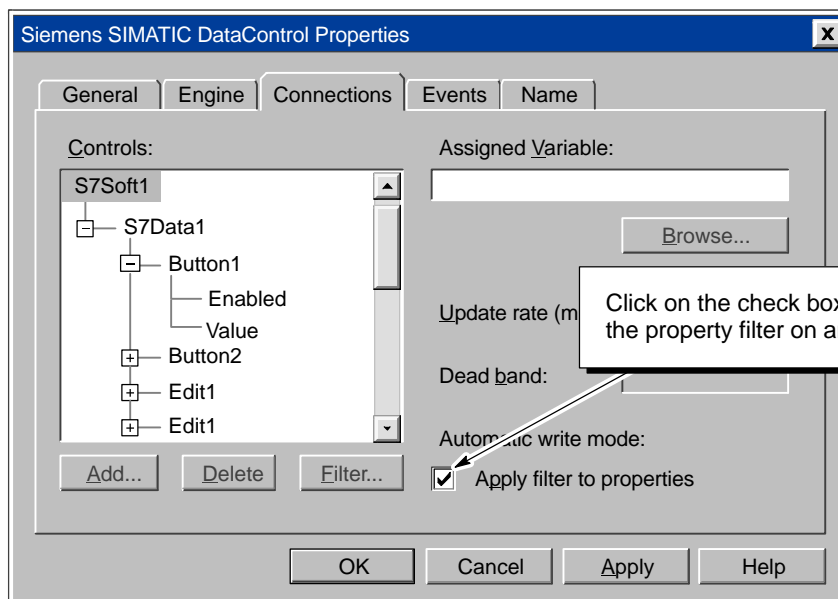

Figure 1-8 Applying the Filter to the Property List
6. As shown in Figure 1-8, select the "Apply filter to properties" check box to display only the properties listed in the filter. You can use the check box to toggle the filter on and off.